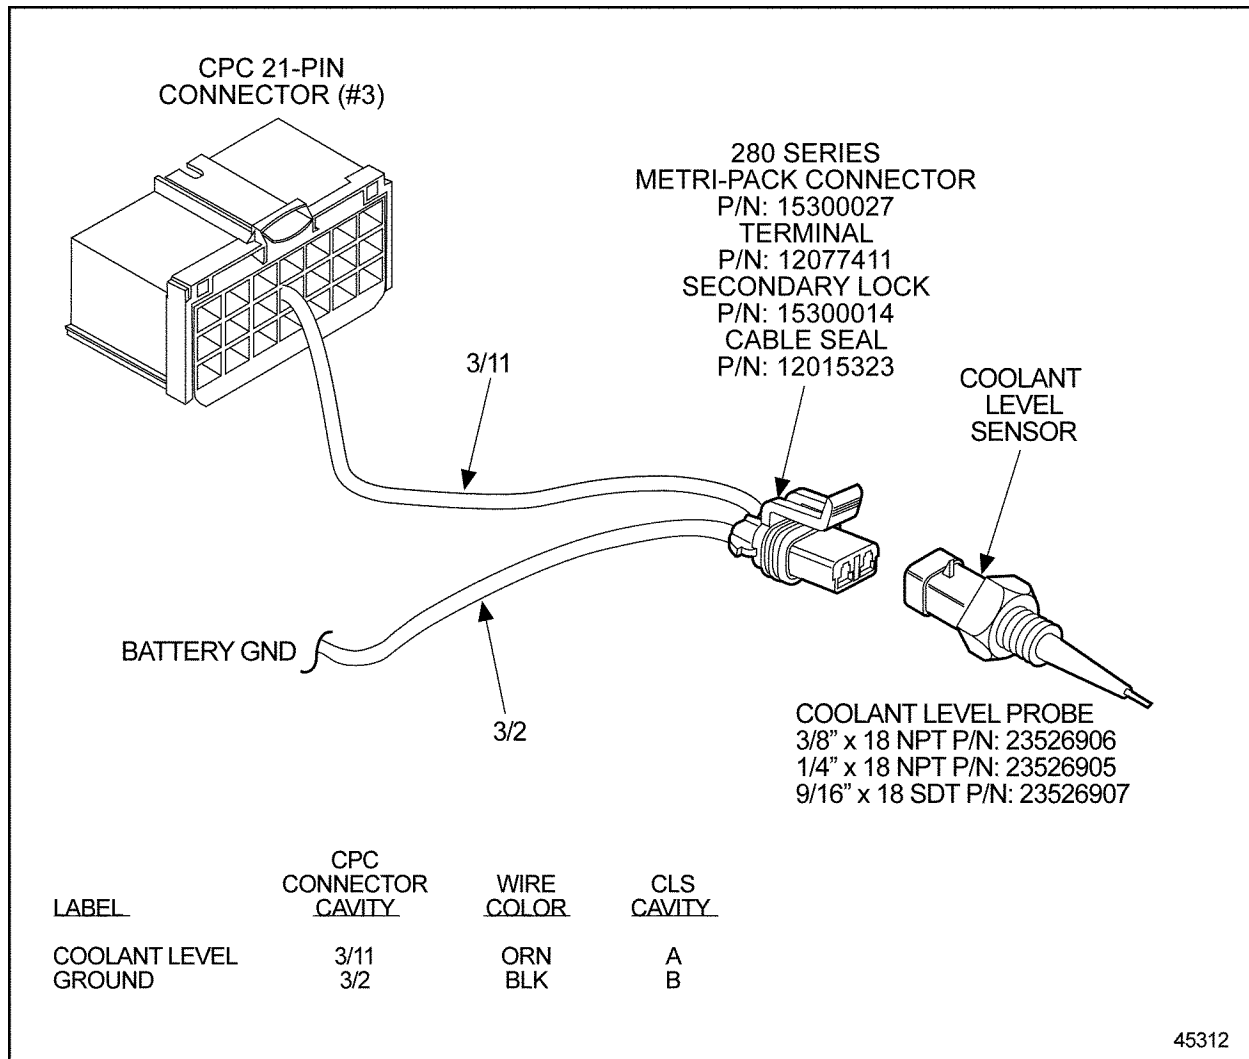

Figure 10-3 Engine Coolant Level Sensor Installation for CPC
1. Check the voltage between the CPC #3 connector (21-pin) wire 3/11 on the ECL Sensor. See Figure 10-3.